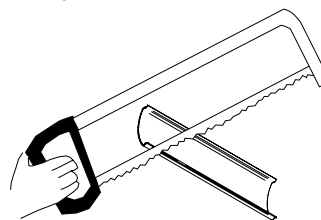

Figure 12
- ⑦ Measure the distance between the 3/4" diameter shape located at the top of the fascia and the wall. Use a fine tooth saw to carefully cut the bracket covers to length (see Fig. 12).